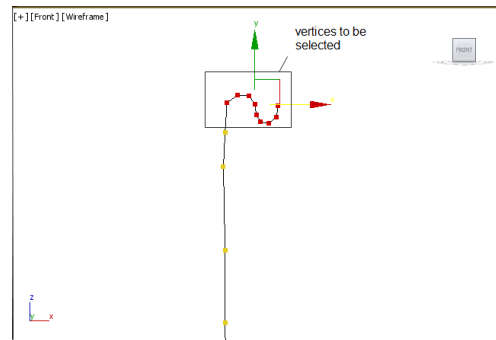

Figure 5-26 The selected vertices
- Select the upper vertices of *pillar*, as shown in Figure 5-26 and then right-click; a quad menu is displayed. Choose **Smooth** from the quad menu; the upper portion of *pillar* is smoothened. Select the **Vertex** sub-object level again to exit the sub-object mode.